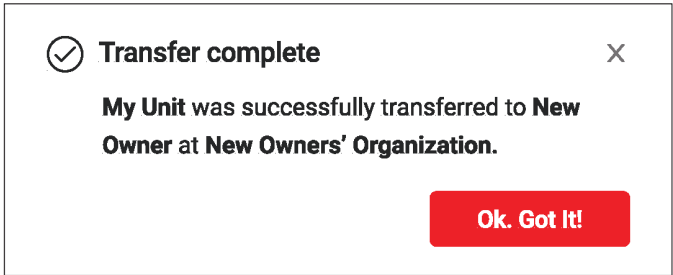

Figure 67. Completed Device Transfer
6. After transfer is complete, a pop-up window will indicate the unit has been transferred to the new owner at the desired organization. See **Figure 67**.